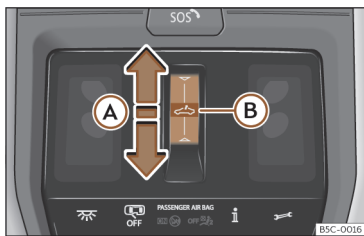

Fig. 82 On the interior roof lining: sunroof button.
- Automatic movement: slide your finger back over the functional area  >>> **Fig. 82 (A)**.
- Before approx. 5 seconds after activation of the anti-trap function, slide your finger forward over the functional area  >>> Fig. 82 (A) and keep pressed until the sunroof is fully closed.